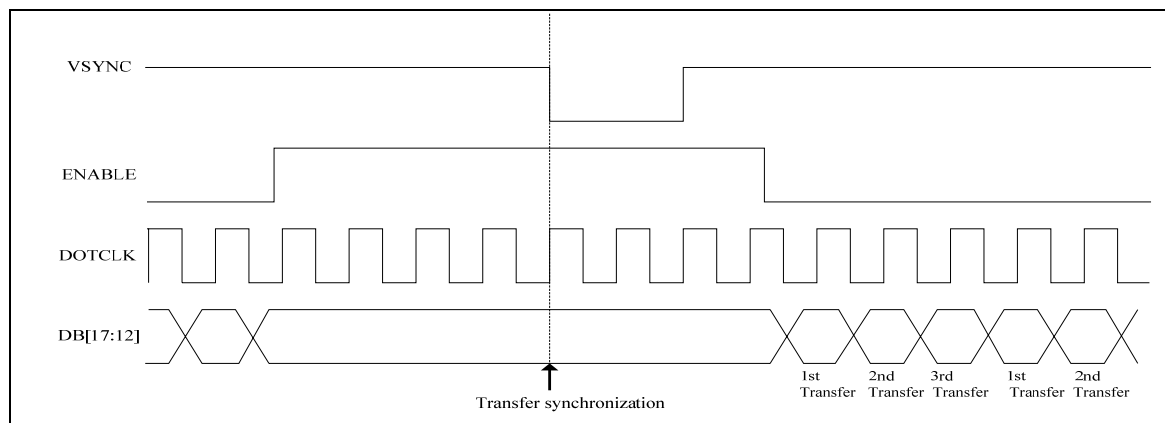

Figure 46 6-bit Transfer Synchronization
6. When switching between the internal operation mode and the external display interface operation, follow the sequences in Figure 46 RGB and Internal Clock Operation Mode switching sequences.